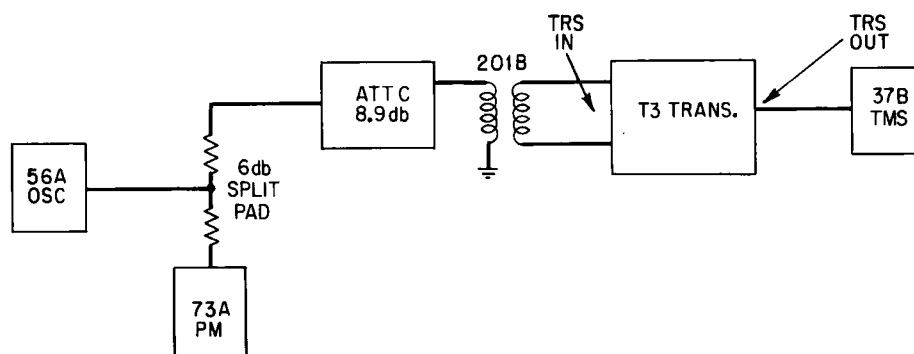

Fig. 4 - Test Arrangement for Measuring Frequency Characteristic of T3 Transmitting Terminal
- (1) Set up test arrangement shown in Fig. 4 with ATT C set to 8.9 db.
- (2) Set the carrier level control key to BAL position.
- (3) Set the 56A oscillator for 900 kc and adjust output for 0 dbm on the 73A power meter.
- (4) Calibrate the 37B TMS for -15 dbm at 5.039 mc per Paragraph 6.03. Measure the output of the terminal at 5.039 mc. It should be between -15 ± 0.5 dbm. Read the output using the expanded scale.
- (5) Repeat Steps (3) and (4) using an input of 3.6 mc with an output of 7.739 mc. Calibrate the 37B TMS for -15 dbm at 7.739 mc.